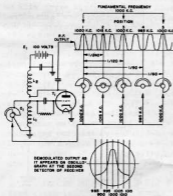

Figure 2.5 - Frequency Modulation
A. An illustration of the generation of frequency modulation is shown in Figure 2.5. The main characteristic of a frequency modulated signal is that the frequency is constantly changing while the output voltage remains constant. Starting at the fundamental frequency, the frequency gradually increases to its maximum, decreases through the fundamental to its minimum and then returns to the fundamental frequency, completing the cycle. The maximum and minimum frequencies are determined by the bandwidth of the f-m oscillator. In the illustrated case, the bandwidth is 15 kc either side of the fundamental 1000 kc. In the Universal Crystal Controlled Signal Generators the bandwidth may be either 0-30 kc, 0-150 kc or 0-450 kc. The rate at which the cycle is completed may also be variable. In these models the rate is either 60 or 400 cycles.
itor of the circuit given in Figure 2.5. The control of the band width of frequency modulation is the potentiometer R26. In the case of the narrow band f-m oscillator (1 mc), the sweep may be varied from 0-30 kc, utilizing 60 cycle modulating frequency. When using the wide band f-m oscillator (50 mc) the sweep may be varied from 0-450 kc utilizing 60 cycle modulation or 0-150 kc utilizing 400 cycle modulation. The oscillator can also be externally modulated. The remaining section of the 6SN7, V3 is used as a mixer stage to heterodyne either the 1 mc or 50 mc frequency modulated signal with the signal from the main variable oscillator, V1, 6C4, thereby resulting in a variable frequency modulated output covering a range between 100 kc to 160 mc.